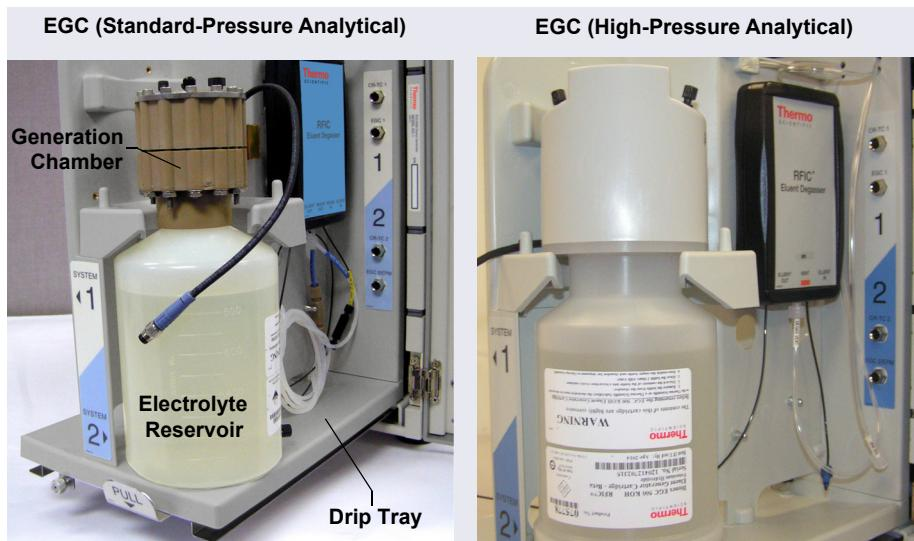

Figure 10-18. Dionex EGC Service Position
7. Turn the Dionex EGC upside down and place it on the EG drip tray (see Figure 10-18). This is the “service position” for the cartridge.
1. Hold the cartridge with the eluent generation chamber (see Figure 10-18) on top. Unscrew the eluent generation chamber from the electrolyte reservoir and pour the remaining electrolyte solution into an appropriate hazardous waste container.